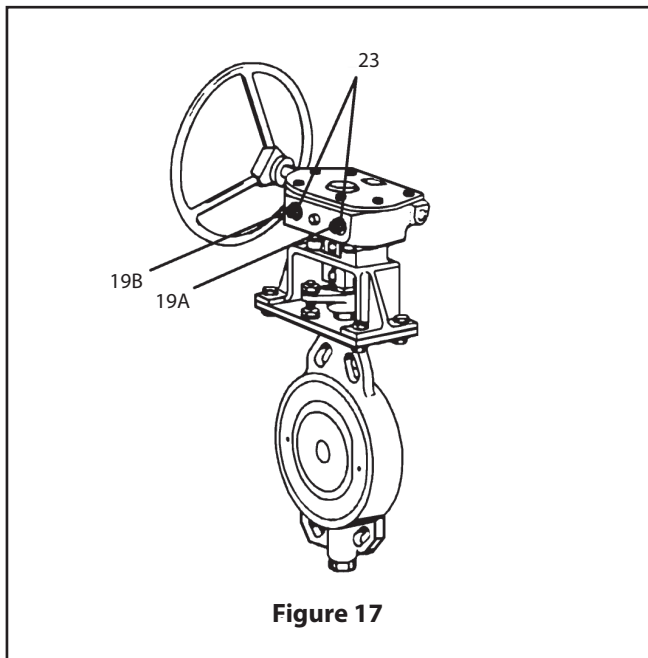

Figure 17
7.6 Setting Stops on MA Manual Gear Actuator (Figure 17)